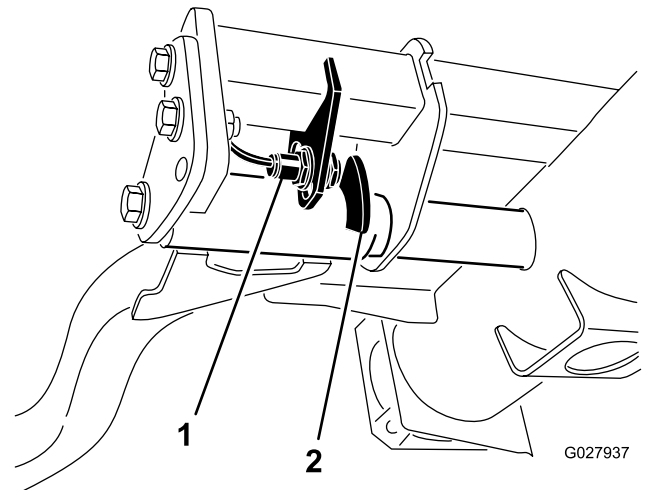

Figure 36
2. Loosen the lift-arm-switch mounting screws (Figure 36) and move the switch down to increase the lift-arm turn-around height or move the switch up to decrease it. Tighten the mounting screws.
Note: The switch is located underneath the hydraulic tank behind the front right lift arm (Figure 36).